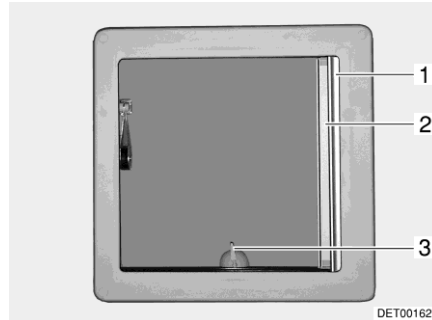
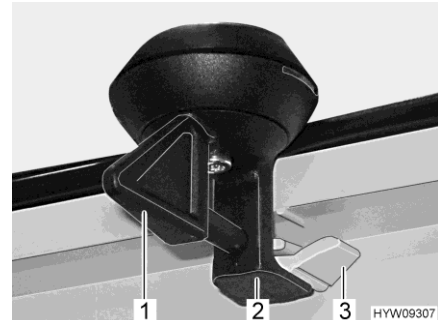

Fig. 28 Hinged skylight
Fig. 29 Lock (hinged skylight)
- Turn the lever (Fig. 28,3 or Fig. 29,1) one quarter turn.
- Turn the lever one quarter turn. The lock (Fig. 29,2) must slide into the bottom catch (Fig. 29,3).
- Pull out Roman shade (Fig. 28,1) and release in the required position. The Roman shade will stay in that position.
- Pull insect screen (Fig. 28,2) out until it engages with the latch on the opposite side.